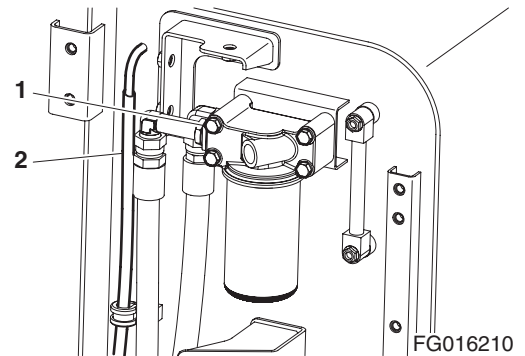

Figure 14
20. Remove engine oil filter bracket bolt (1, Figure 14).
21. Disconnect fuel return hose (2, Figure 14).